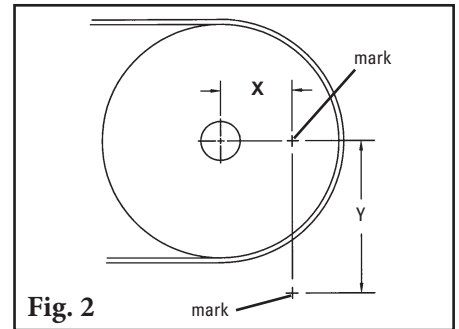

Fig. 2
- Pole location too far out - The initial blade/belt contact gap will be larger than 3 mm (1/8") (Fig. 2). If the blade is correctly tensioned it may flip through before it is fully worn. If tensioned too lightly, it will develop the "smile effect" quickly and not clean properly.
2. **Lay out the dimensions on the chute wall.** Measure out the X dimension horizontally from the center of the pulley shaft and mark. (**NOTE:** It may be easier to put a level on top of the pulley shaft, draw a horizontal line and then measure down half the diameter of the shaft and make a line from the front of the shaft. Now subtract half the pulley shaft diameter from the X coordinate and measure on the line and make a mark.) Then measure down vertically the Y dimension and mark. This is the correct position for the center of the cleaner pole (Fig. 2). Lay out and mark the same dimensions on the other side.